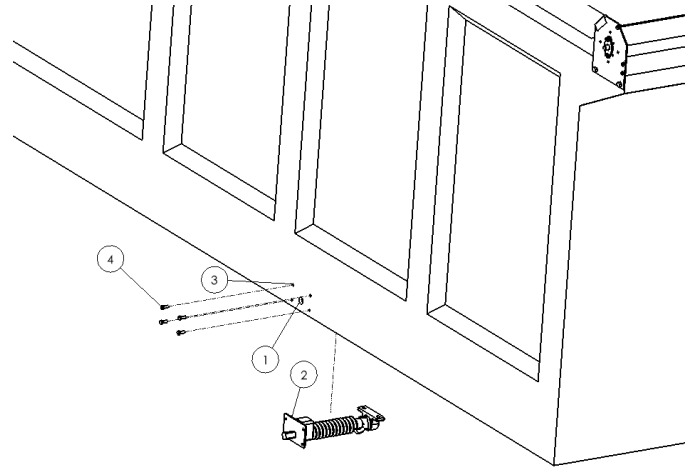

Figure 3.5
Drill a 1-1/8" hole (1) centered on the pivot point. Position the spring assembly such that the shaft lines up with the hole. Mark the positions of the 4 mounting holes (3). Drill out these holes and secure the spring assembly (2) to the dump box (1) via the 3/8" hex bolts (4) and 3/8" hex nuts. (Figure 3.5)